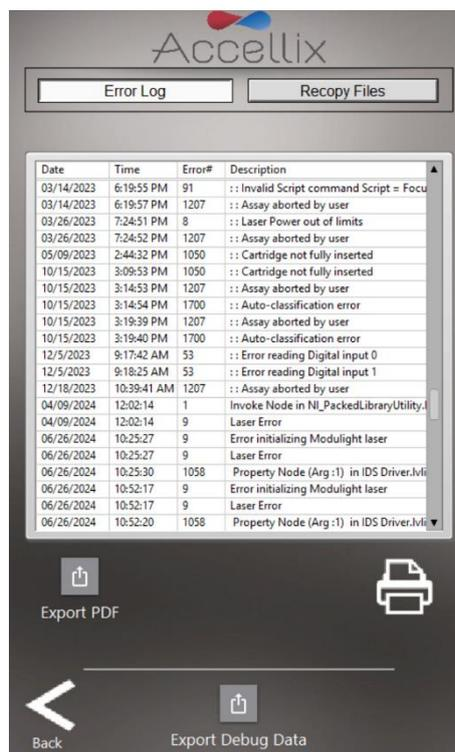

Figure 22: Error Log screen
- The **Error Log** tab displays a list of all errors which have occurred on the instrument (Figure 22). Tap the printer icon  to print the log file. Tap the **Export PDF** icon to export the table to a PDF file.